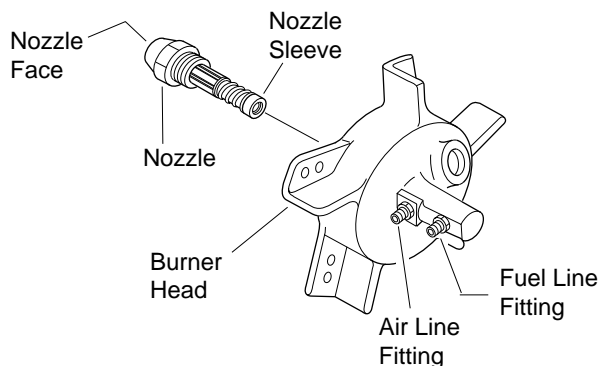

Figure 25 - Removing Nozzle, 110,000 Btu/Hr Model
8. Carefully remove nozzle from burner head using 5/8" socket wrench (see Figure 25).